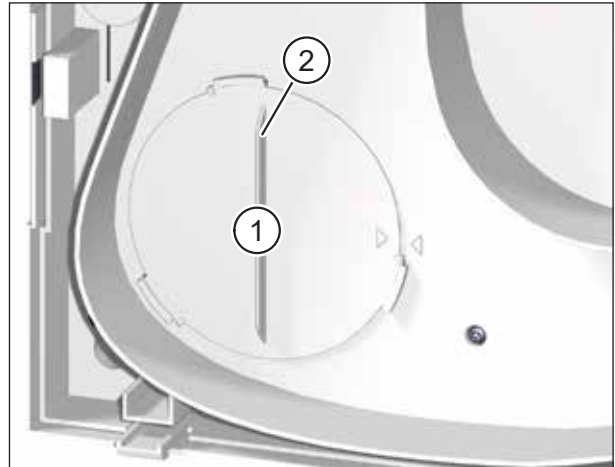

Fig. 7: Remove outdoor air filter, clean filter cover
- ▶ Turn the filter cover (item 1 in Fig. 7) using the hand grip (item 2 in Fig. 7) anti-clockwise until the filter cover is released from the retainers.
- ▶ Check the position of the filter cover. The hand grip must be vertical and the arrow on the filter cover must line up with the arrow for the locking position (see Fig. 7 on page 13).